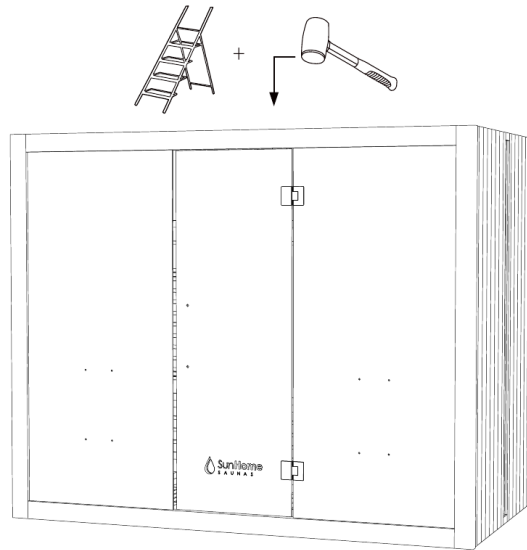

Figure 10. Front Panel (D) buckled to both side panels and tapped down from the ladder. The drawing shows the glass in place for reference only.
- Lift the Front Panel (D) and connect its concealed buckles to the buckles on the Left Panel (A) and the Right Panel (C) (**Figure 10**).